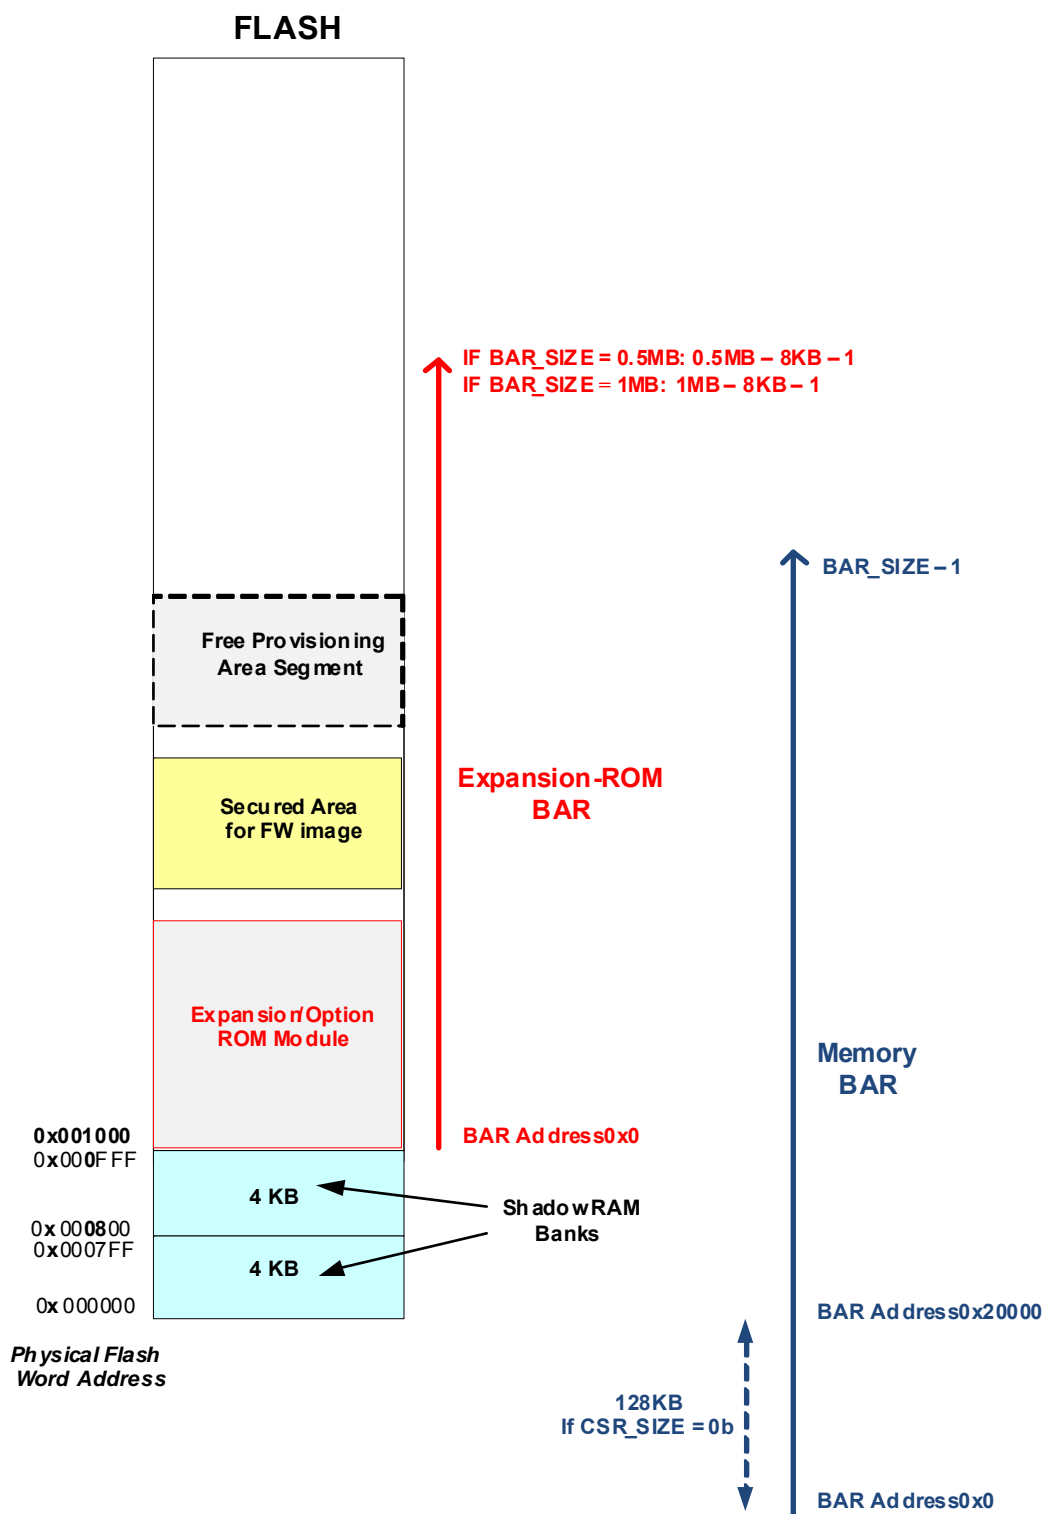
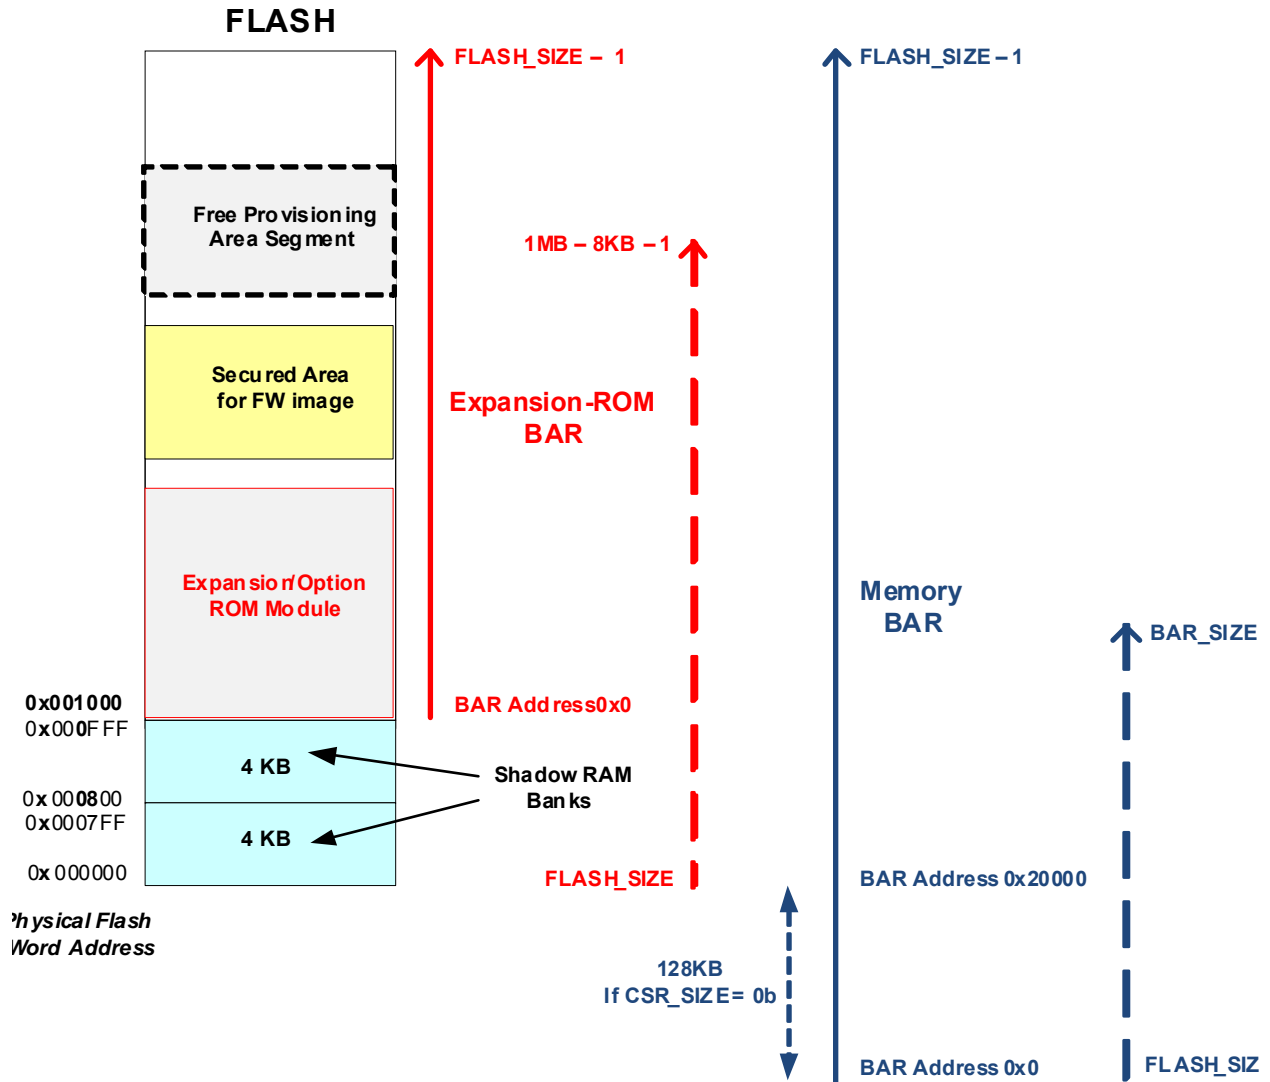

Figure 3-4. Flash Part Size is Larger Than BAR Size
Figure 3-5. Flash Part Size is Smaller Than BAR Size
- a. For *BAR_SIZE* = 0.5 MB, read accesses to the last 8 KB of the Expansion-ROM BAR returns unpredictable data. Refer to Figure 3-4.
- b. For *BAR_SIZE* >= 1 MB, read accesses beyond (1 MB - 8 KB) of the Expansion-ROM BAR returns unpredictable data. Refer to Figure 3-5.
While in the non-secure mode, Flash BAR access while FLA.FL_REQ is asserted (and granted) is forbidden. It can lead to a PCIe hang as a bit-banging access requires several PCIe accesses. Figure 3-4 and Figure 3-5 show the BARs mapping schemes according to the size of the BAR vs. the Flash memory sizes supported.